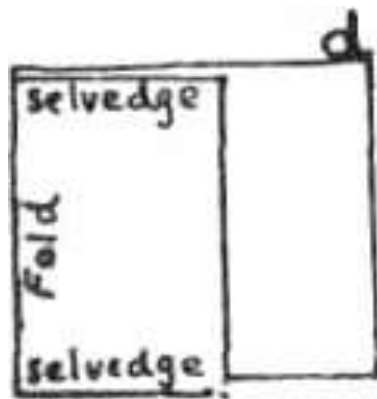

Fig.12.1d
d) Off centre crosswise fold (Fig.12.1d): When only a part of the material is required to cut pattern pieces that are too wide for lengthwise fold layout, this type of fold is used.